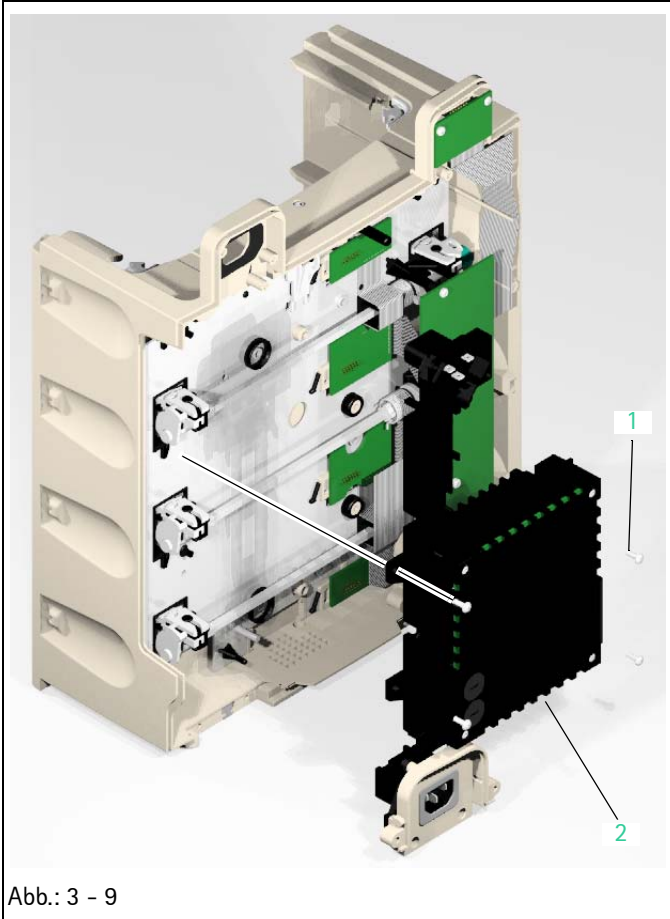

Abb.: 3 - 9
6. Loosen two screws (Abb.: 3 - 8 / Item 1) and take them out of the power supply housing (connector).
Legende zu Abb. 3 - 9: